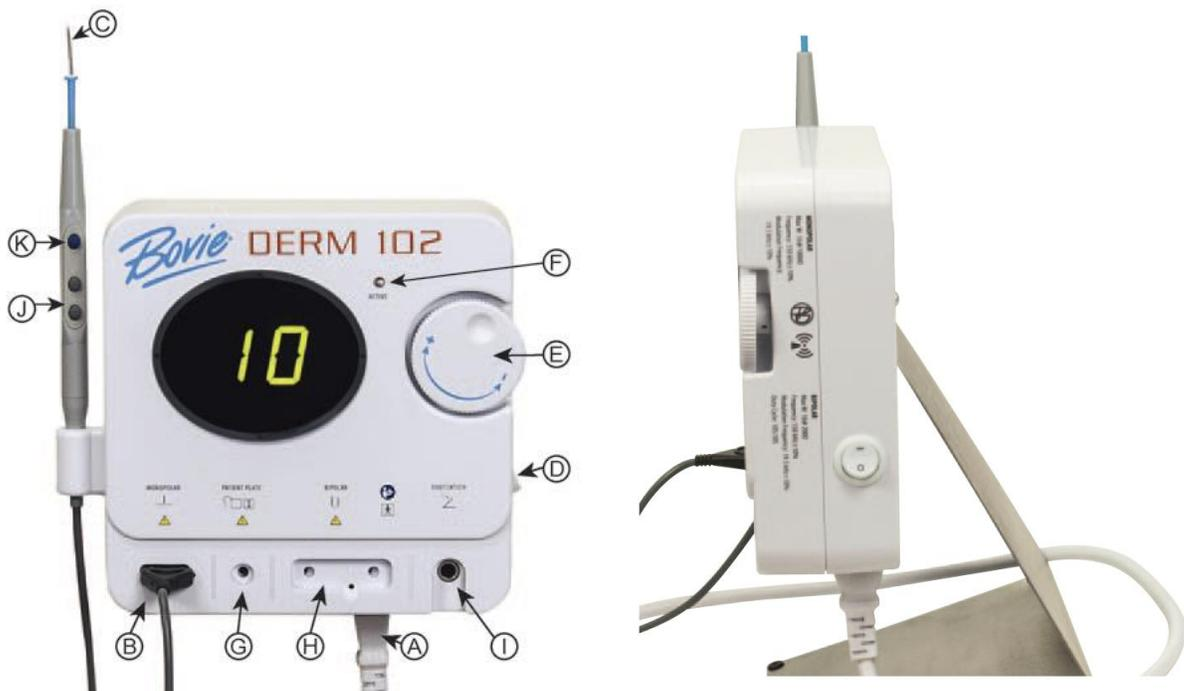

Figure 2
2. Plug the female end of the power cord into the base of the unit (see figures 2 and 3, letter A).
- The monopolar output for the handpiece is on the lower left front of the unit (see figures 2 and 3, letter B). The handpiece plug is designed to fit in only one direction. Plug the connector from the handpiece into the receptacle on the bottom of the unit (see figures 2 and 3, letter B). The three button handpiece is designed to give the doctor complete fingertip control of the power output settings.
- Slide the standard electrode into the handpiece until it is firmly seated (see figures 2 and 3, letter C). The handpiece will accept most standard 3/32" electrodes.
- Turn the unit power on utilizing the switch on the right side panel of the unit (see figures 2 and 3, letter D).
8. Set the power output either by using the dial on the front of the unit (see figures 2 and 3, letter E) or on Bovie® DERM 101/102 unit only by the up and down buttons on the handpiece (see figures 2 and 3, letter J). When power level adjustment is being made by the handpiece an audible tone will sound to indicate that the power level has been changed. Depressing and holding the up or down buttons will cause the power settings to change more rapidly for quick adjustment of the output settings. Power output is displayed in “.1” watt increments from 0.1 to 10 watts.
9. To activate the unit, remove the handpiece from the holder. Place the handpiece in the desired position and depress the activation button (see figures 2 and 3, letter K). When the unit is activated, an audible tone is sounded and the blue active light will illuminate (see figures 2 and 3, letter F).
10. To use the optional grounding plate with cord (A802EU), insert the plug of the cord into the grounding plate output (see figures 2 and 3, letter G) and connect the other end into the grounding plate. The plate should be placed underneath the patient at a point where the entire plate is covered by bare skin. The use of conductive gel is recommended.
11. To use the optional bipolar cord (A827V), insert the plugs into the bipolar outputs (see figures 2 and 3, letter H). The cord is then plugged into the forceps. A sliding gate behind the monopolar and bipolar outputs prevents the user from using both simultaneously.
12. The optional footswitch (A803) is plugged into the footswitch output and placed on the floor (see figures 2 and 3, letter I). The footswitch can be used with monopolar procedures and must be used with bipolar procedures.